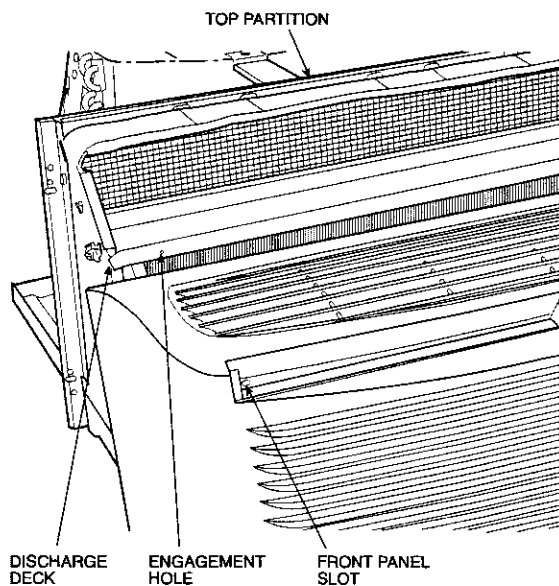

FIGURE 4 — FRONT PANEL INSTALLATION WITH LOCKING FEATURE
1. Remove both indoor air inlet filters to expose front panel engagement holes. See Figure 4.